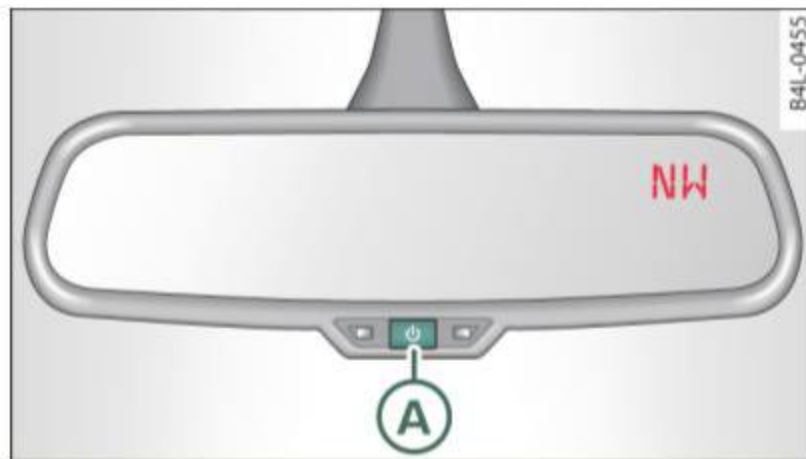

Fig. 67 Inside rear view mirror: digital compass activated
- Hold the **A** ⇒ fig. 67 button down until the number of the set magnetic deflection zone appears on the interior rear view mirror.